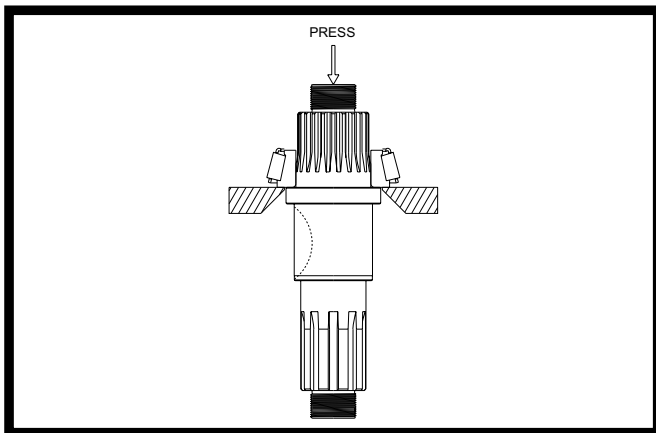

Fig 22
5. To remove the remaining bearing cone assembly, support under the cone with a bearing separator and press the shaft through the cone. See Figure 22.